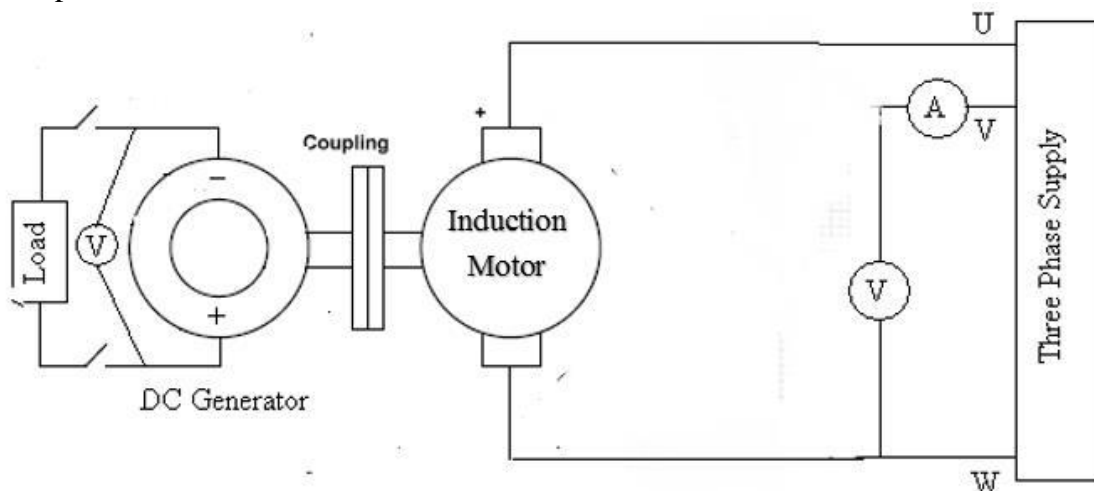

Figure 13.1. Torque speed curve of Induction motor (Cage rotor)
1. According to the given diagram in Figure 13.1 connect the different electrical wires.